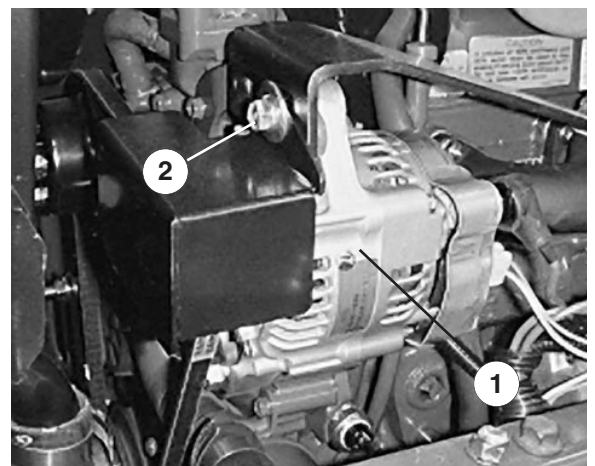

Figure 33
2. Proper tension will allow $\frac{3}{8}$ in. (10 mm) deflection when a force of 10 lbs. is applied on the belt (Fig. 33) midway between the pulleys.
4. Loosen the locknut securing the adjustable idler pulley (Fig. 33). Push the idler pulley against the
belt until proper deflection is achieved, then tighten the idler pulley locknut (Fig. 33).